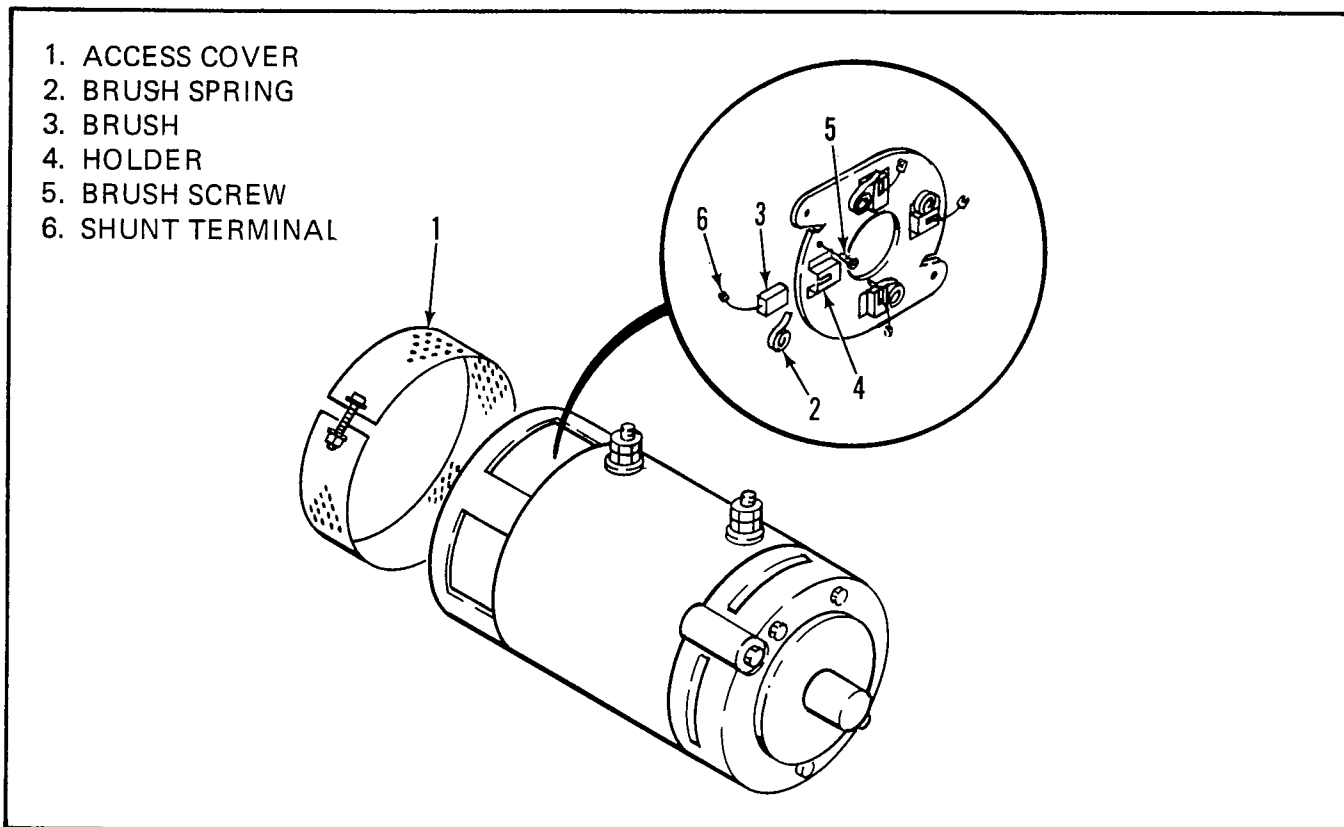

Figure 5-21. Electric Motor
5-26. ELECTRIC MOTOR. (Figure 5-21)
(1) Refer to Figure 5-21 and remove the brush access cover (1).
(2) Lift the brush spring (2) end upwards to slide brush (3) out of the holder (4).